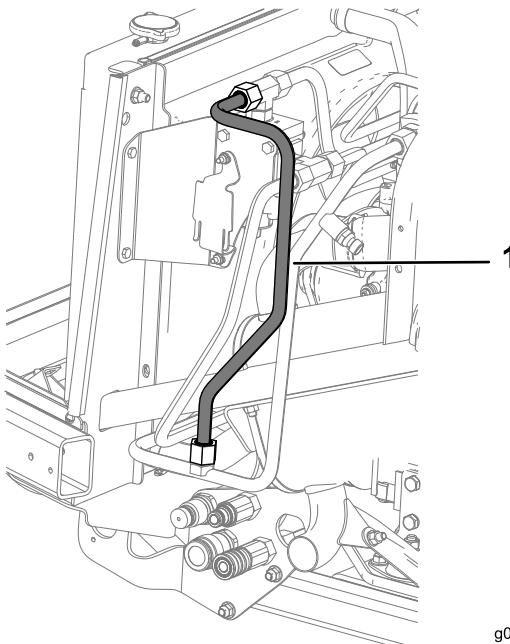

Figure 26
6. Install the hydraulic tube E from the hydraulic tube H to the tee-adapter fitting (5/8 inch male) on the right manifold assembly as shown in Figure 26.